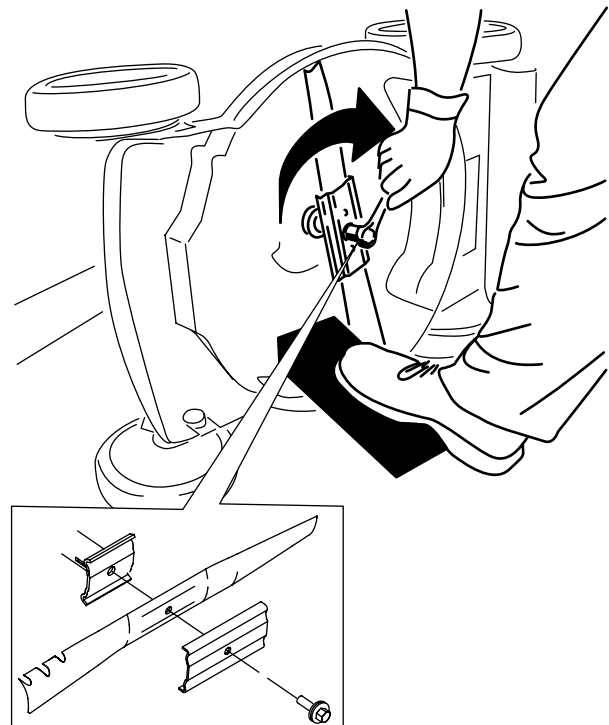

Figure 20
4. Install the new blade, bracket, and blade bolt (Figure 20).